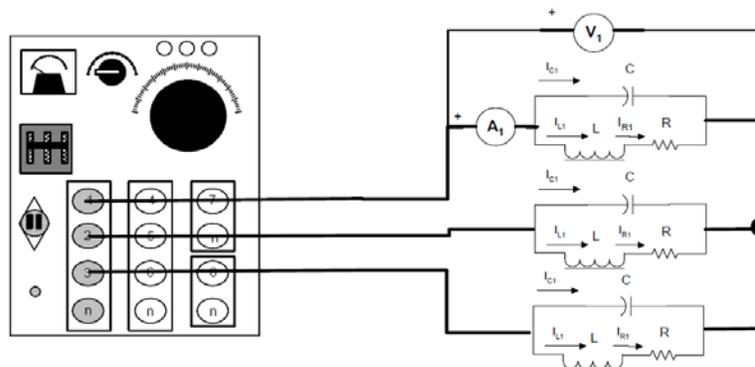

FIGURE 3.9
Step 10: Now, using your single-phase wattmeter configuration, measure the power in phase 1 as shown in the Figure 3.9. Notice that the phase-1's current pass through the current coil (the DAI II's terminals), and the voltage coil (DAI EI's terminals) is connected in parallel with phase 1. Write your measure at table 3.2.